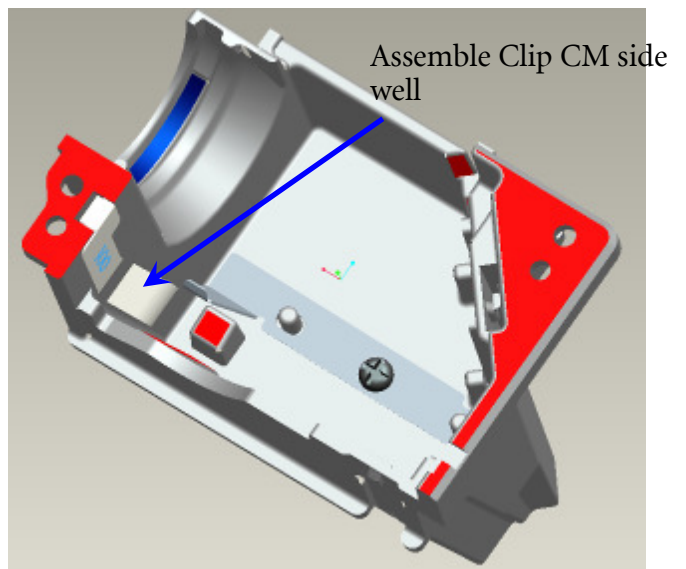

Fig. 2-2
- ii. Insert Clip CM Side to Sub HSG (Fig. 2-2).